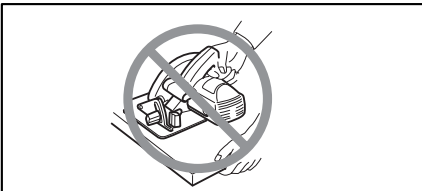

**Fig. 4** A typical illustration of proper hand support, workpiece support, and supply cord routing.
**WARNING:** It is important to support the workpiece properly and to hold the saw firmly to prevent loss of control which could cause personal injury. Fig. 4 illustrates typical hand support of the saw.